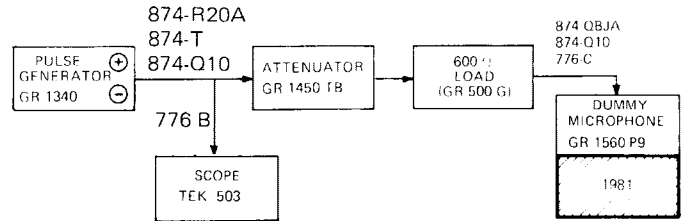

Figure 4-5. Test setup for detector balance check.
- a. Make the test setup shown in Figure 4-5, using the + output of the pulse generator.